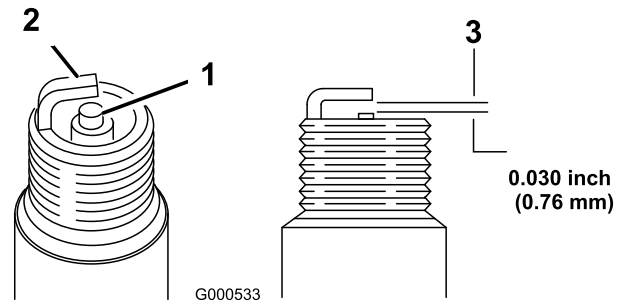

Figure 24
5. Set the gap on the plug to 0.030 in. (0.76 mm) (Figure 24).